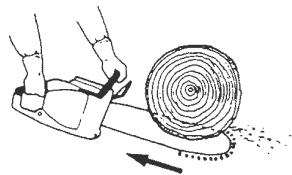

Fig. 19
- When cutting with the upper part of the chain the reactive force will push the saw towards you and away from the wood you are cutting. (Fig. 19)